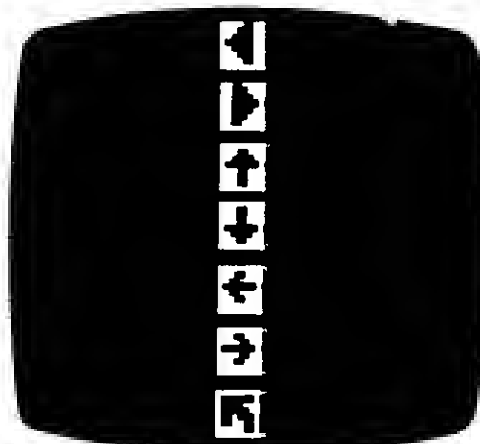

Figure 3-1. Special Graphics Test
- Format: Depress each key of the keyboard. As you press each key, watch the screen to verify if the computer is echoing the key. Be certain to use the CTRL key with other keys. This checks special graphics functions not tested elsewhere (See Figure 3-1).